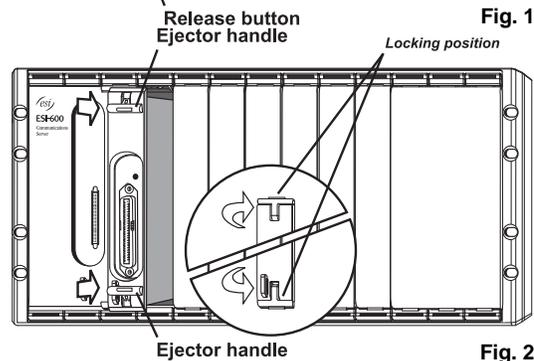

Fig. 2
2. Slide the port card into the card guides at the top and bottom of the cabinet. Then, **gently** push the port card into the cabinet (**Fig. 2**).
4. Press the port card’s **ejector handles** into the locking position (**Fig. 2**), so that they click into place behind the release buttons.